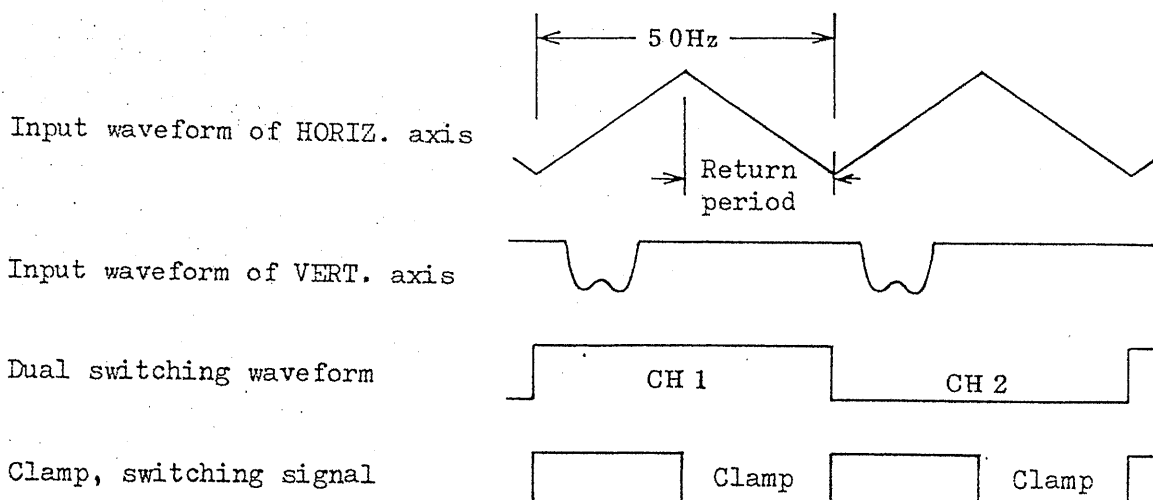
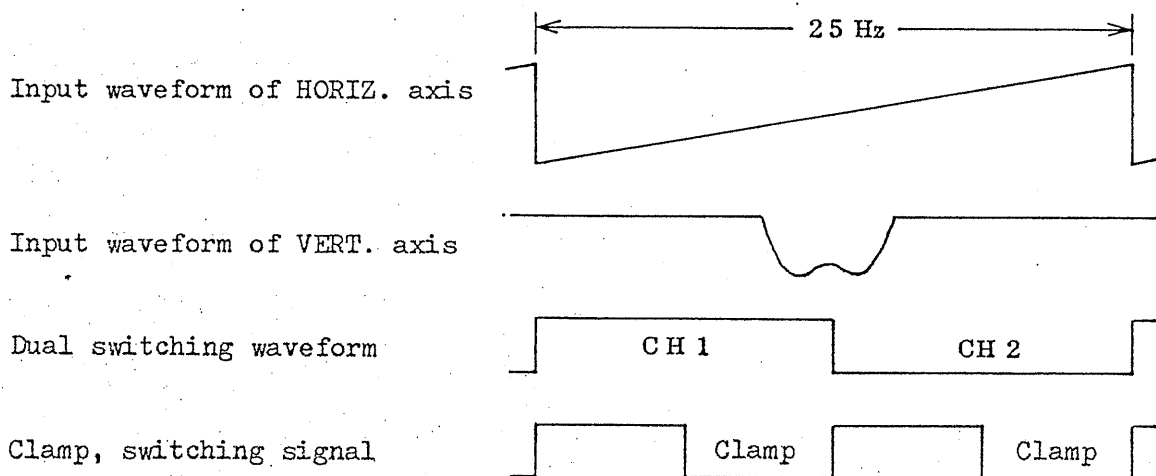

Fig. 3-4
Fig. 3-6
The actions of Items (1) through (4) as following are illustrated in Fig. 3.4 ~ Fig. 3-6.
- (1) When the sweep frequency is 50 Hz and the sweeps are with return periods, the CH1, CH2 and ALT operations are possible as shown in Fig. 3-4 and the clamp function is effective for each operation.
- (3) When the sweep frequency is 25 Hz, the clamp function is ineffective as shown in Fig. 3-6.
- (4) Only when the sweep signal is a 50-Hz sine or triangular wave, both dual-channel operation and clamp function are possible at the same time. With such a signal as a sawtooth wave, it is impossible to attain the dual-channel operation and clamp function at the same time.